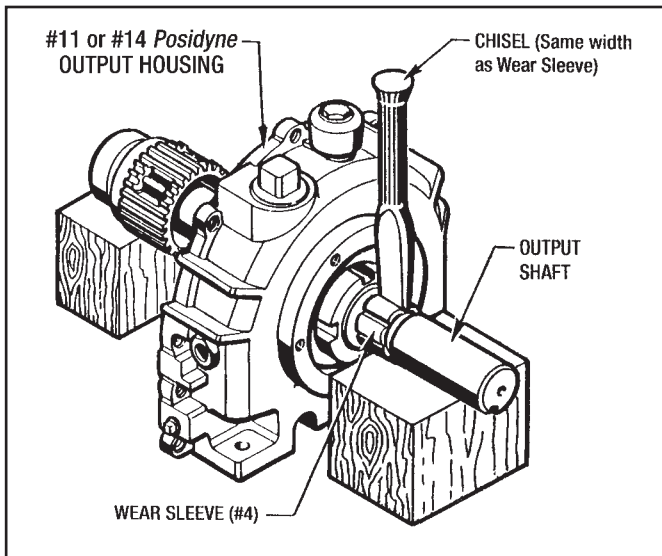

Figure 7.6 - Wear Sleeve Removal
6. Remove the Wear Sleeve (#4) as shown in Figure 7.6 and described in **WEAR SLEEVE REMOVAL PROCEDURE - Section 7-12.**
With a chisel, the same width as the Wear Sleeve, make about 5 or 6 notches in the ring parallel to the Output Shaft. It can now be removed from the Output Shaft by hand. (See Figure 7.6)